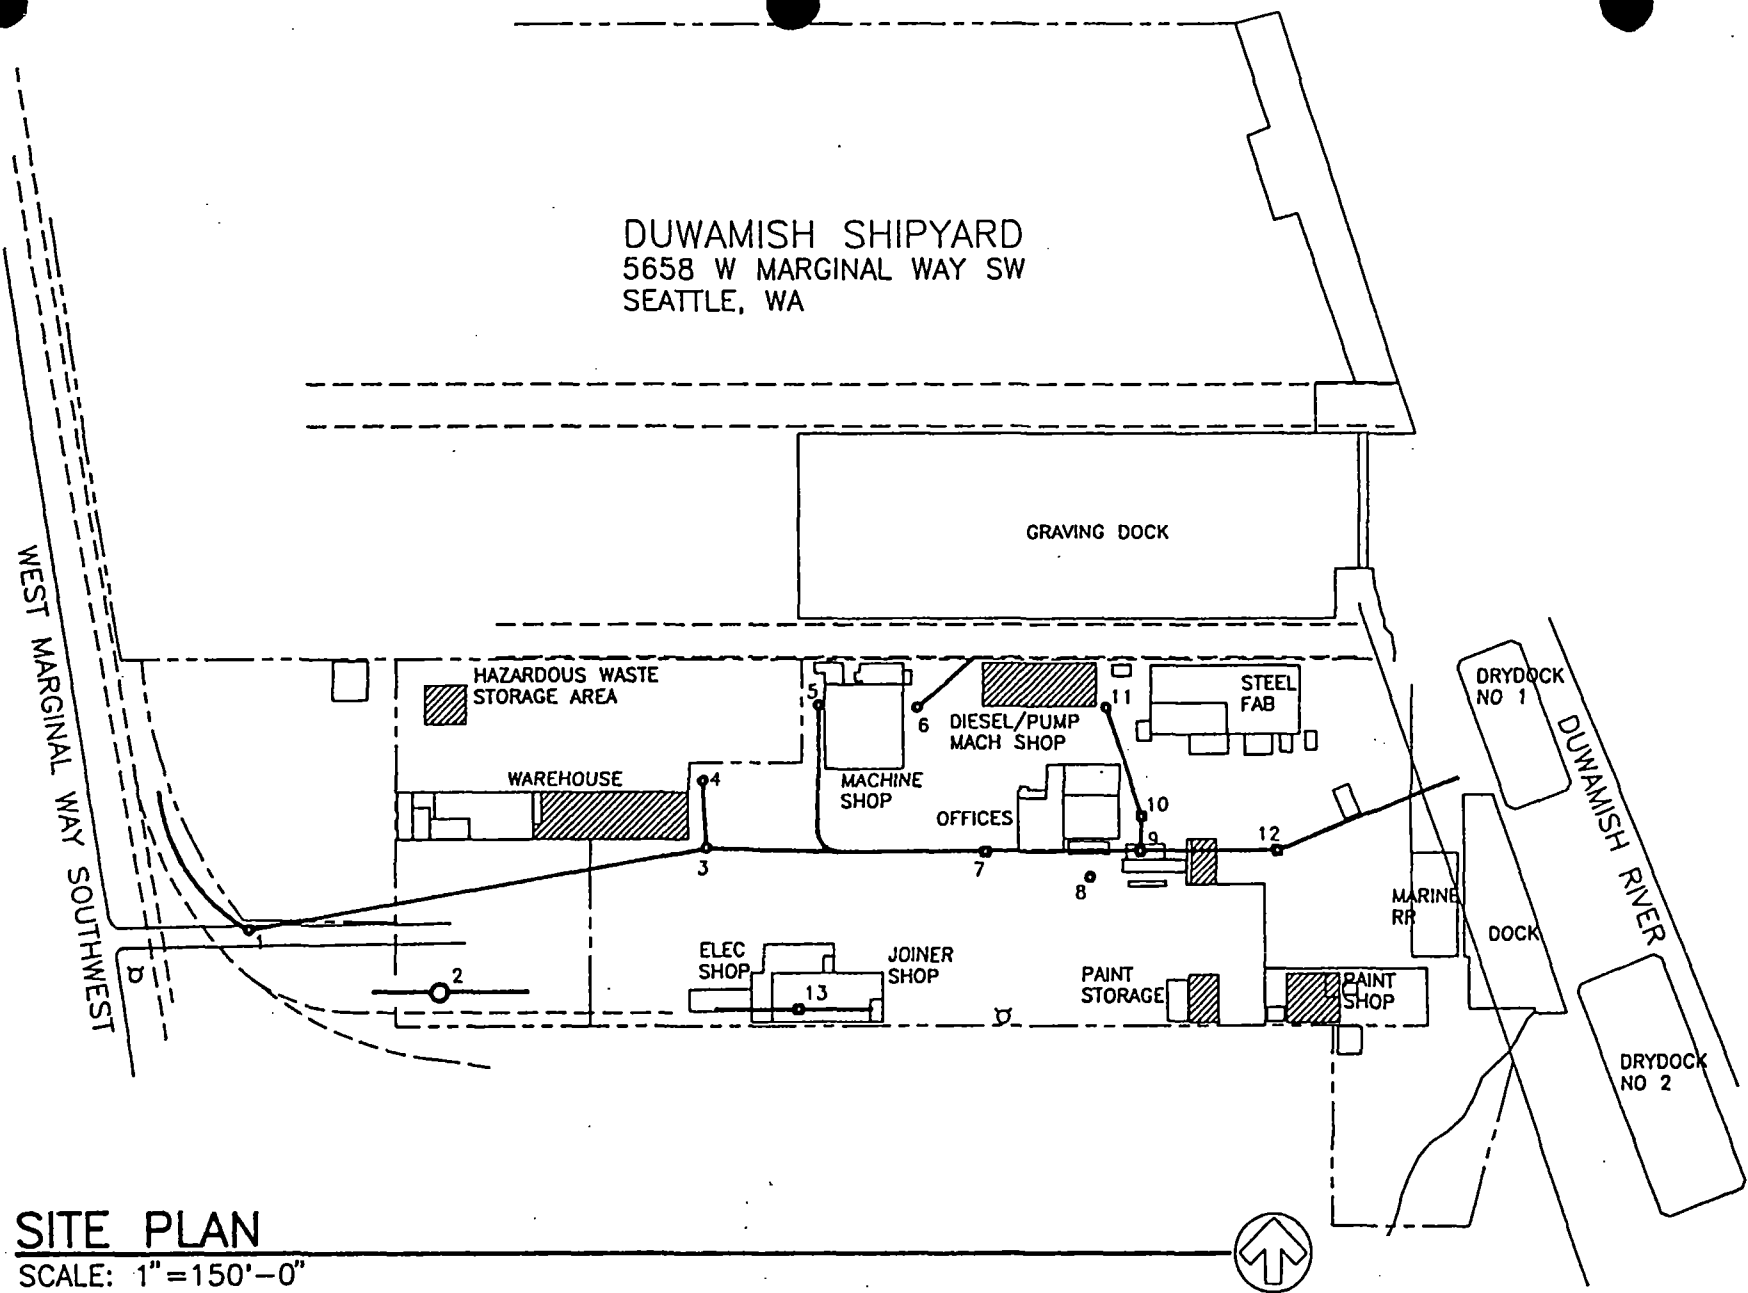

FIGURE 1
A plan of the site is shown in Figure 1, in which storm drains and chemical storage areas are identified. Regular storage of chemicals (quantities greater than one gallon) is confined to the following areas: the paint shed and associated areas, the distillation shed, the engine shop, warehouse, hazardous waste storage area, oil storage area, and the underground fuel tanks. A description of each area is given below.
- A. **Paint Shed Area** - The paint shed, adjacent to the paint shop, is a 10' by 6' wooden structure located over an asphalt surface. It is approximately 95 feet from the nearest storm drain (#12 as shown in Figure 1), with a slight slope in grade towards the drain. In this area 1 to 5 gallon containers of paint are stored. There are no drains in the shop floor and it is 35.5' by 19.5'.
- C. **Diesel/Pump Machine Shop** - The diesel/pump machine shop is a wooden structure that houses mach-ine tools, work benches, and a small parts liquid degreaser. Small containers of cleaners and oils are used and stored in the shop typi-cally 5 gallons or less per container. The small parts degreaser uses a 30 gallon barrel of mineral spirits for degreasing in a sink mounted on top of the barrel. The floor of the shop is asphalt. The shop is located approximately 10 feet from the nearest storm drain (#11 in Figure 1).
- E. **Hazardous Waste Storage Area** - The Hazardous Waste Storage Area, located on the west side of the plant, is a 32' by 30' concrete covered structure with open sides. Drapes are being installed to minimize the entry of rainwater into the structure. It is surrounded by a 7-inch berm and divided into four bermed areas for segregation of wastes. The total volume inside of each separate bermed areas is 800 gallons. The nearest storm drain is #4 on Figure 1. It is located approximately 190 feet from the Hazardous Waste Storage Area.